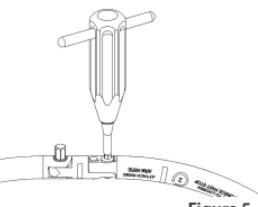

Figure 5
- With the **Hex Tool** (ML-0505), tighten the screw onto the half ringed portion to secure the assembly. (Figure 5 and 6)